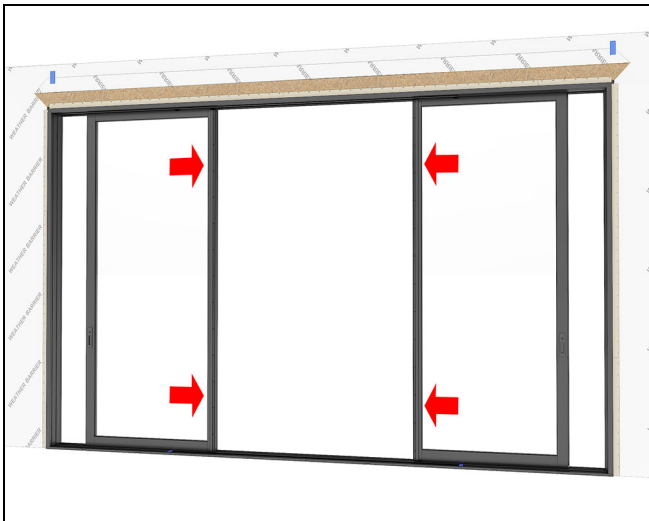

Figure 163
7. Unlock and move the operator panels away from the jambs about 12". See Figure 163.